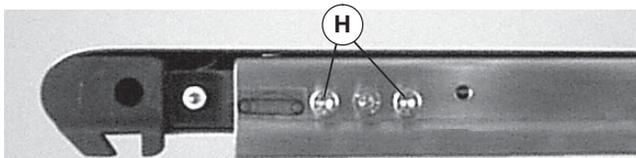

Figure 5
- Remove head plate screws (Figure 5, item H) on both sides of the conveyor.